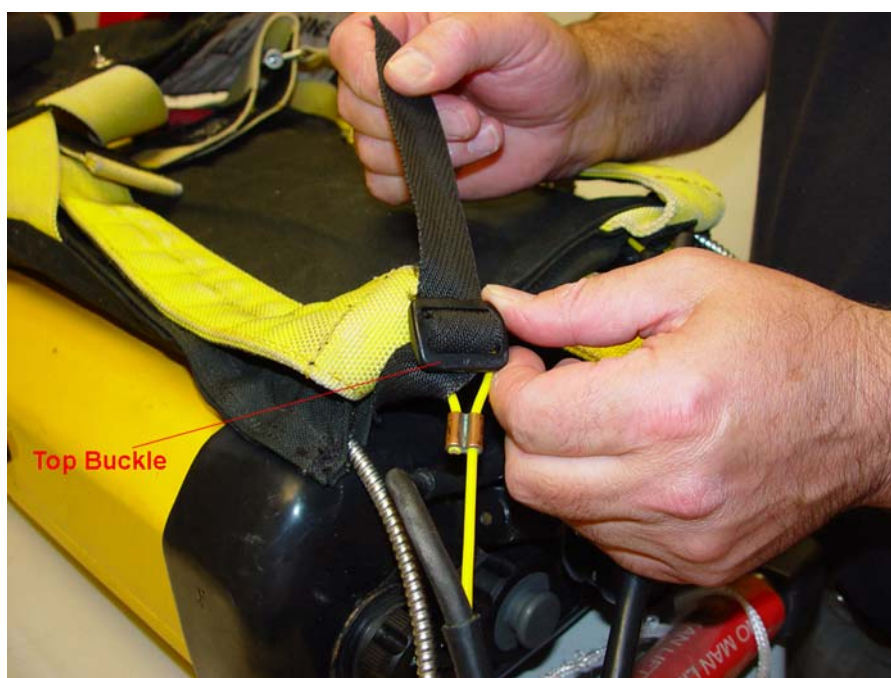

Fig 4.19
4. Pass the webbing through top buckle as per Fig 4.19.